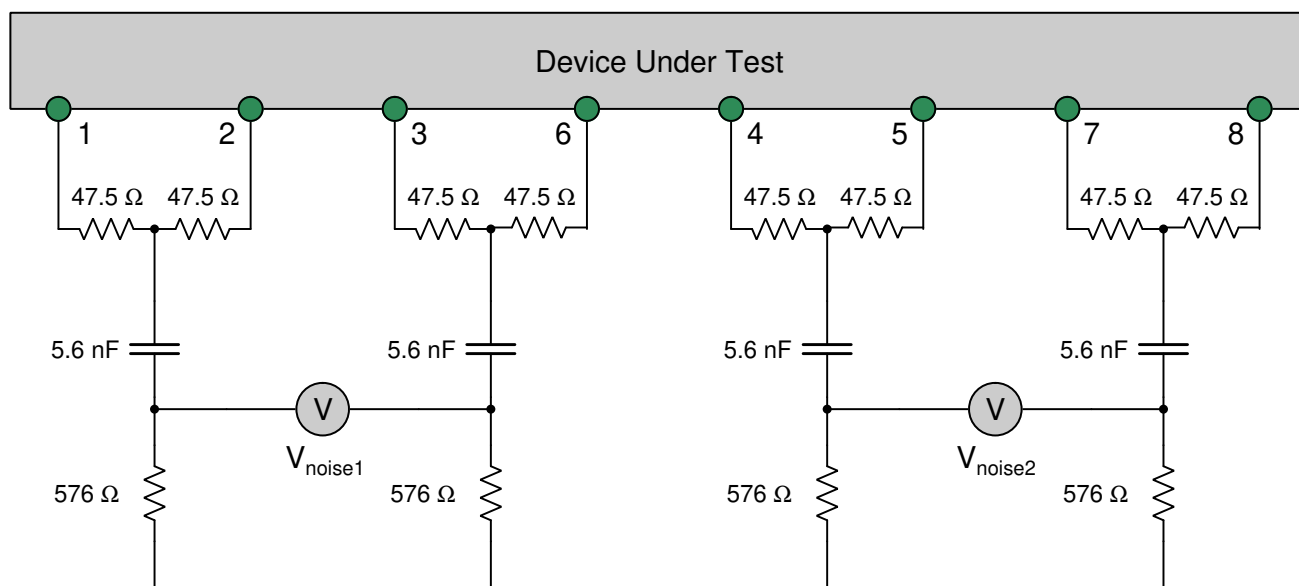

Figure 10: Pair-to-pair voltage noise measurement circuit
- Version 1.2 Previous change was incorrect per comment #9 against version 1.0. Implemented different measurement circuit with high-pass filter in Figure 10. Noise now only measured between the pairs of Mode A and Mode B.
- Connect the measurement circuit shown in Figure 10 to the PI of the PD (in parallel to the connection to the PSE model). The impedance of the voltage meters must be such that the detection signature of the PD does not materially change.
2. Measure the voltage peak amplitude at V_{noise1} and V_{noise2} (see Figure 10) with the measurement set to a band-limited sampling of 2 kHz over the following frequency bands: